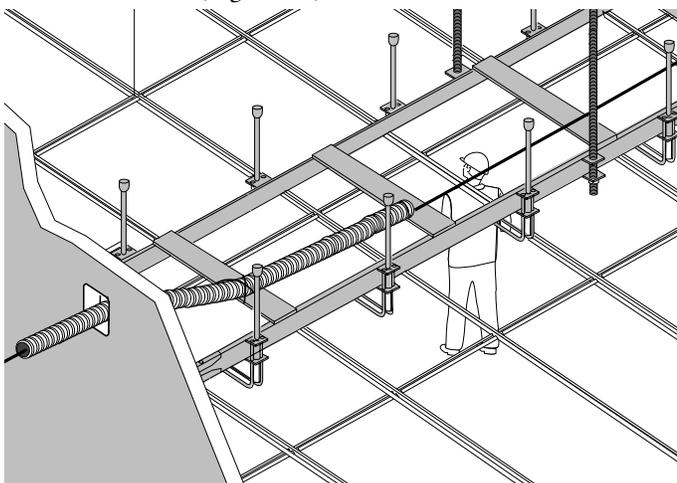

Figure 20
- When entering or exiting a raised floor or suspended ceiling, ensure that the fiber optic cable's minimum bend radius is maintained. Use of flexible conduit is recommended (Figure 20).